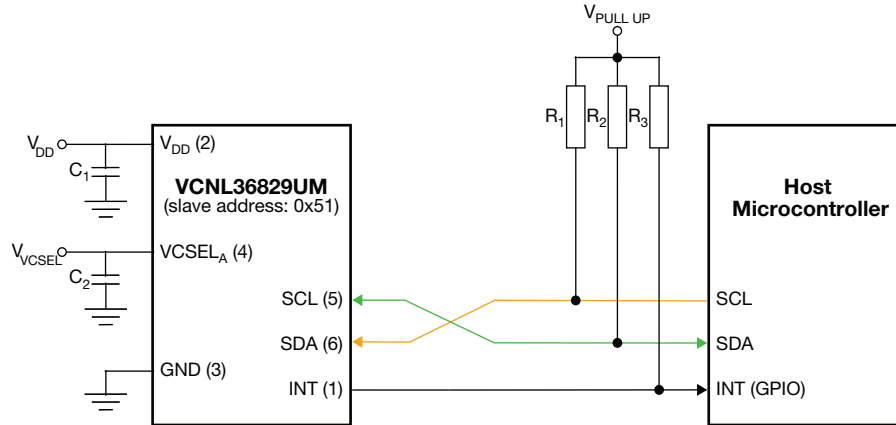

Fig. 13 - Application Circuit Example for a Single VCNL36829UM - Slave Address 0x51
On the other hand, when pins 5 and 6 are connected to the data and clock signal from the microcontroller, as shown in Fig. 13, they will then be configured as an SDA pin and SCL pin, respectively. The 7 bit slave address option of 0x51 will be automatically selected.
- ⁽¹⁾ The default ID depends on the connection of the SCL and SDA pins on the VCNL36829UM with the SCL and SDA pins on the host MCU. If pins 5 and 6 on the VCNL36829UM are connected to the SCL and SDA pins on the host, the default value will be 0x00. On the other hand, if pins 5 and 6 on the VCNL36829UM are connected to the SDA and SCL pins on the host, the default value will be 0x10. Please refer to Fig. 13.